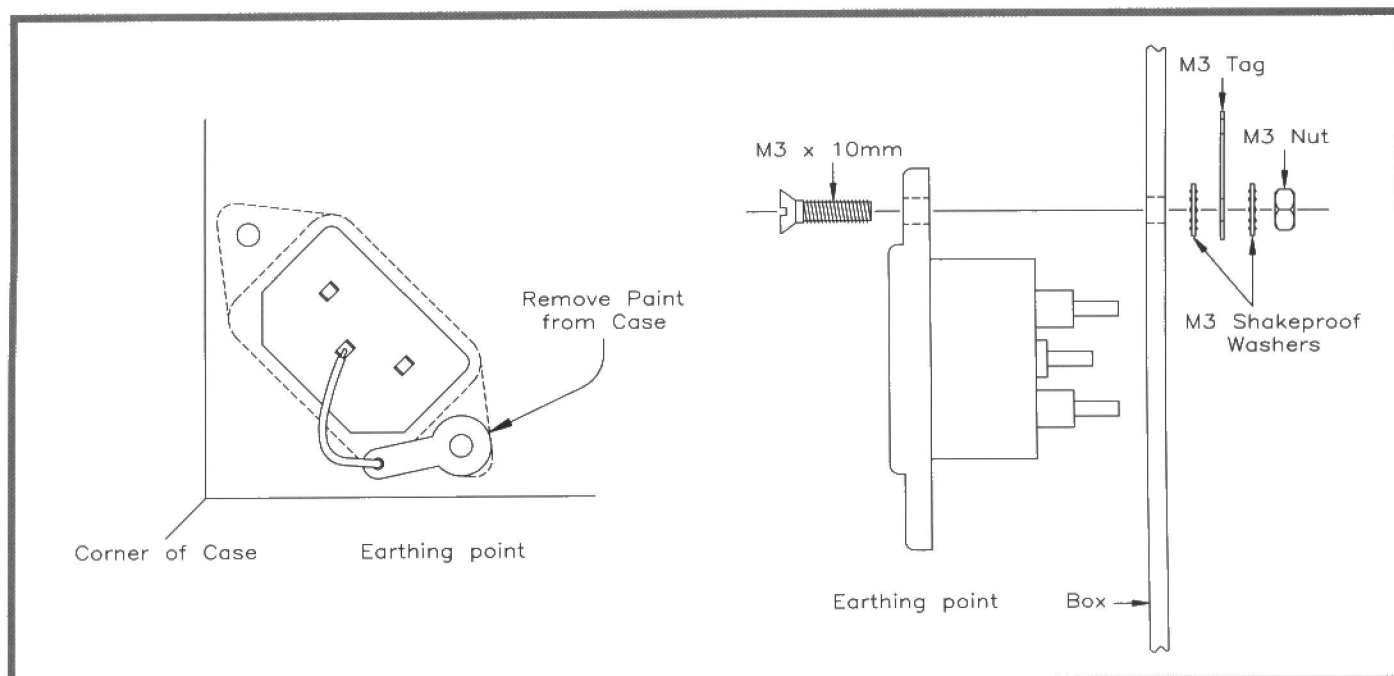

Figure 6. Mains connector installation details.
5. Solder a suitably-coloured wire from the earth connector of the mains connector to the M3 solder tag. Remove the paint from around the lower mains connector mounting hole, as shown in Figure 6. Fit the IEC mains connector to the rear panel, using the *counter-sunk* 8mm M3 screws, so that its earth pin is closest to bottom corner. Don't forget to include the earthed solder tag, which should be fastened against the metal bared earlier.